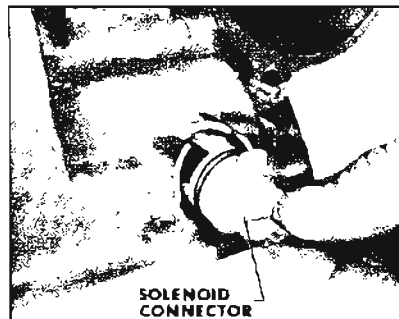

Figure 5-111
2. Remove solenoid switch from case. Inspect switch "O" ring. If nicked, torn or worn replace. See Figure 5-111.